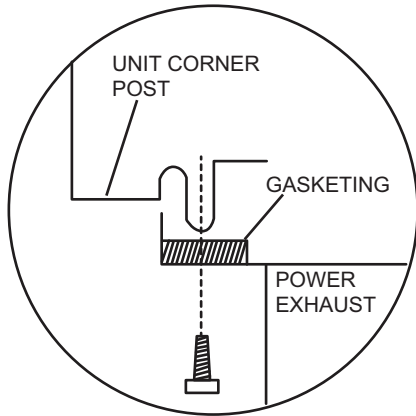

Fig. 11 — Gasketing Location Detail (Standard Filter Panel Only)
3. For units with a standard filter panel (i.e., no hinged door): Install the gasketing (provided) on the back of power exhaust side mating flanges. (See Fig. 11.)